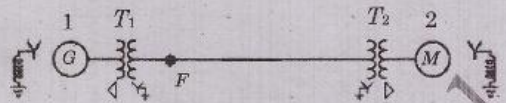

Fig. 5
14. (a) A double line to ground fault occurs on lines b and c at point F in the system of figure 5. Find the sub transient current in phase c of the machine 1, assuming prefault currents to be zero. Both machines are rated 1200 kVA, 600 V with reactances of $X'' = X_2 = 10\%$ and $X_0 = 5\%$. Each three phase transformer is rated 1200 kVA, 600 V – $\Delta/300$ V – Y with leakage reactance of 5%. The reactances of the transmission line are $X_1 = X_2 = 20\%$ and $X_0 = 40\%$ on a base of 1200 kVA, 3300 V. The reactances of the neutral of the grounding reactors are 5% on the kVA base of the machines.